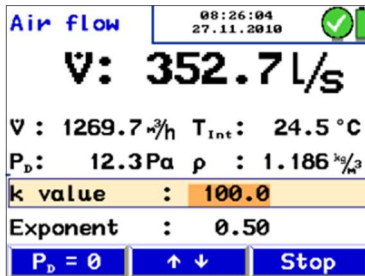

Fig. 34: Menu "Airflow (k value)"
- Select K value, see Fig. 34: Menu "Airflow (k value)"
Press  $P_D = 0$  (menu bar, see Fig. 34: Menu "Air-flow (k value)") to zero the pressure sensor.